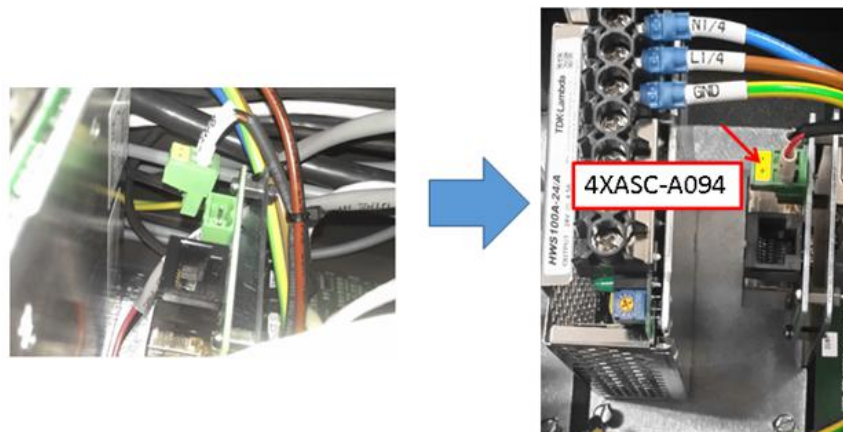

Figure 15 Interlock Patch Power Cable
16. Connect Interlock Patch Board Power Cable (P/N, 4XASC-A094) as Figure 15.